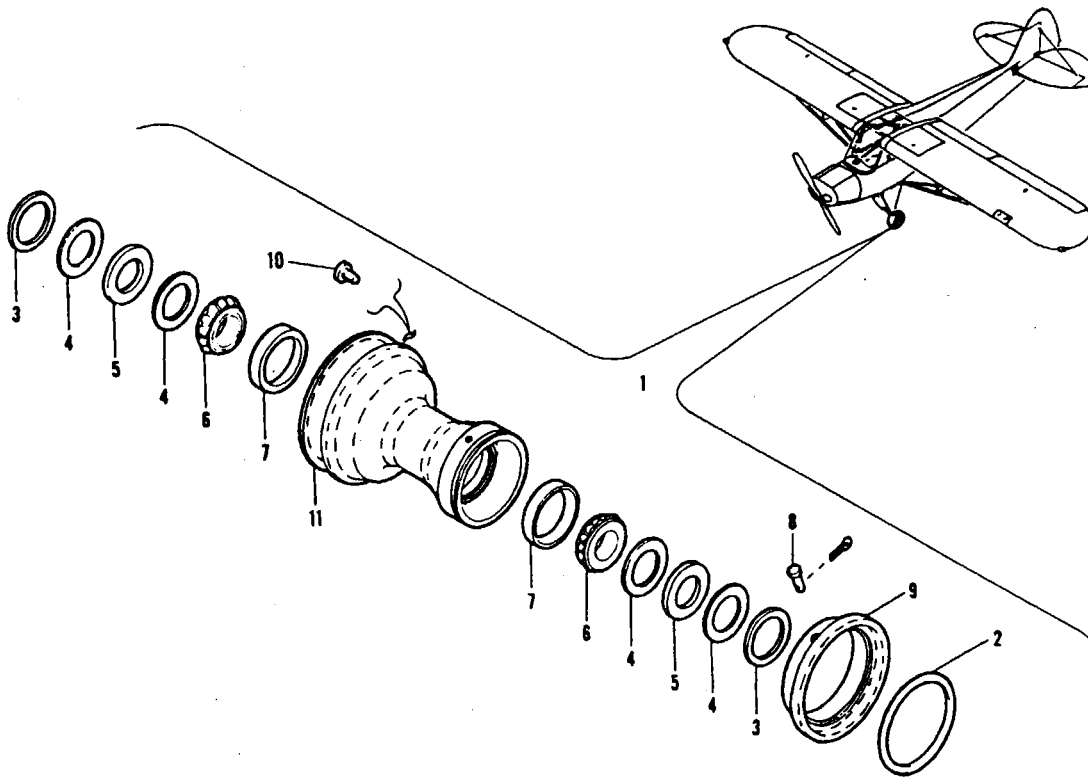

Figure 25. Wheel and Brake Drum Assembly (Hayes Industries)
- F - See Figure 25 component parts.